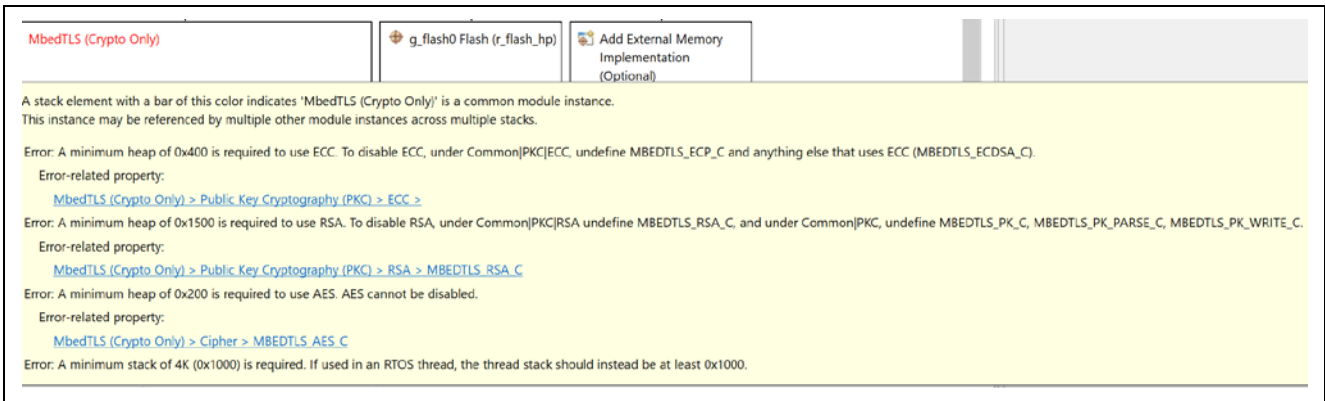

Figure 54. Dependencies of Mbed TLS (Crypto Only) Stack
3. Hover the cursor over MbedTLS (Crypto Only) stack. You will see warnings as shown in Figure 54.